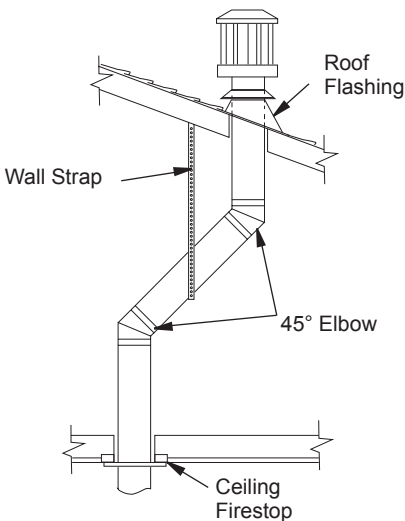

Figure 19 - Offset with Wall Strap and 45° Elbows
1. Determine the route your vertical venting will take. If ceiling joists, roof rafters or other framing will obstruct the venting system, consider an offset (see Figure 19) to avoid cutting load bearing members. *Note:* Pay special attention to these installation instructions for required clearances (air space) to combustibles when passing through ceilings, walls, roofs, enclosures, attic rafters, etc. Do not pack air spaces with insulation. Also note maximum vertical rise of the venting system and any maximum horizontal offset limitations.
Note: If an offset is needed to avoid obstructions, you must support the vent pipe every 3 feet. Use wall straps for this purpose (see Figure 19). Whenever possible, use 45° elbows instead of 90° elbows. The 45° elbow offers less restriction to the flow of the flue gases and intake air.
5. Place the flashing over the pipe section(s) extending through the roof. Secure the base of the flashing to the roof and framing with roofing nails. Be sure roofing material overlaps the top edge of the flashing as shown in Figure 19. There must be a 1" clearance from the vent pipe to combustible materials.